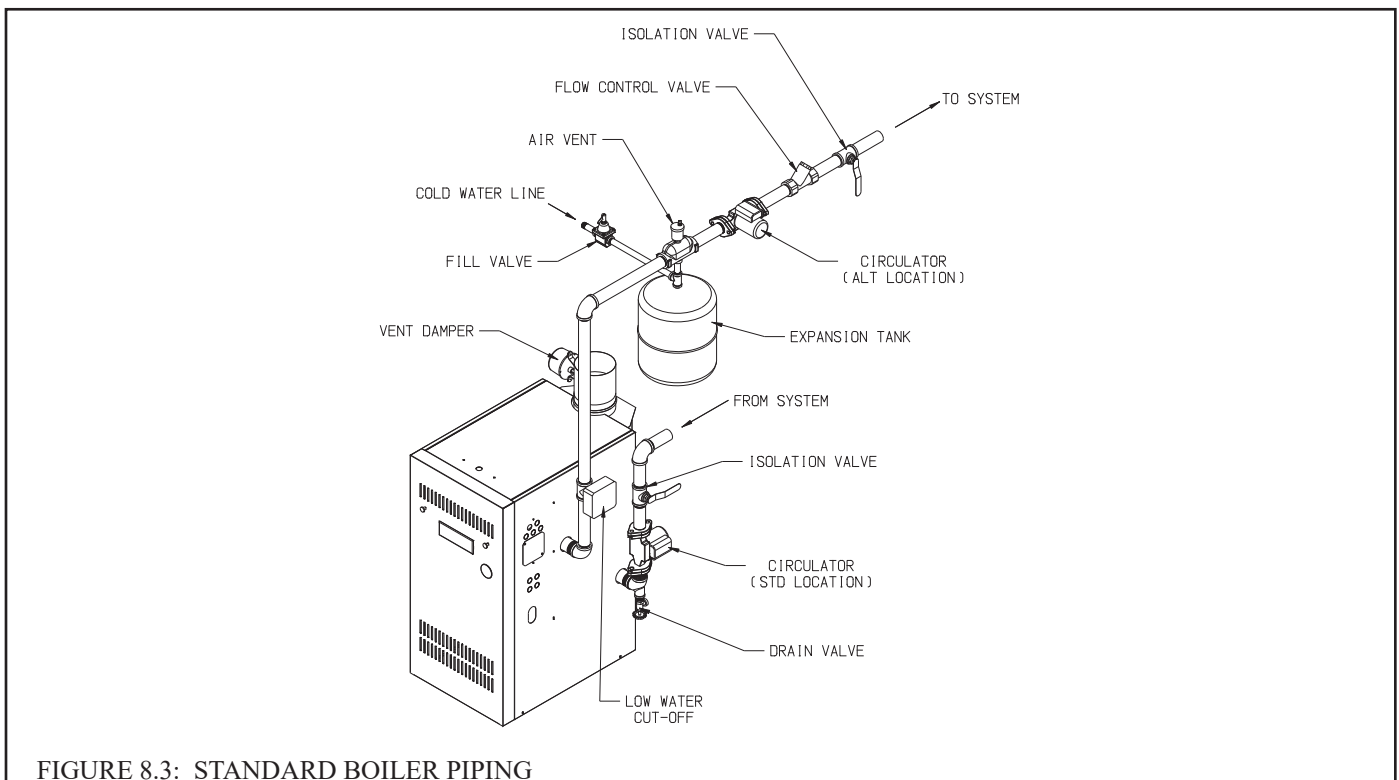

FIGURE 8.3: STANDARD BOILER PIPING
Figure 8.3 shows typical boiler system connections on a single zone system. Additional information on hydronic system design may be found in the *I=B=R Guide RHH* published by the Air-Conditioning, Heating and Refrigeration Institute (AHRI). The components in this system and their purposes are as follows:
- 2) Circulator (Required) - The circulator is shipped loose with the boiler. Fittings are provided to mount it on the boiler return as shown in Figure 8.3, however it can be installed on the boiler supply. If the circulator is moved to the supply it should be positioned just downstream of the expansion tank as shown in Figure 8.3.